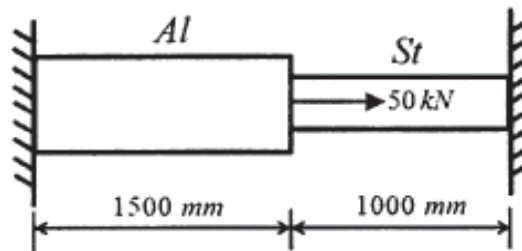

Figure 1.
- b) Two bars one of aluminum and other of steel are jointed together and subjected to load as shown in Figure 1. Determine displacement at common joint using stiffness matrix method. Take c/s areas of aluminum and steel bars are 2000 mm^2 and 400 mm^2 respectively. Young's modulus of aluminum and steel bars are 70 GPa and 200 GPa respectively. [6]